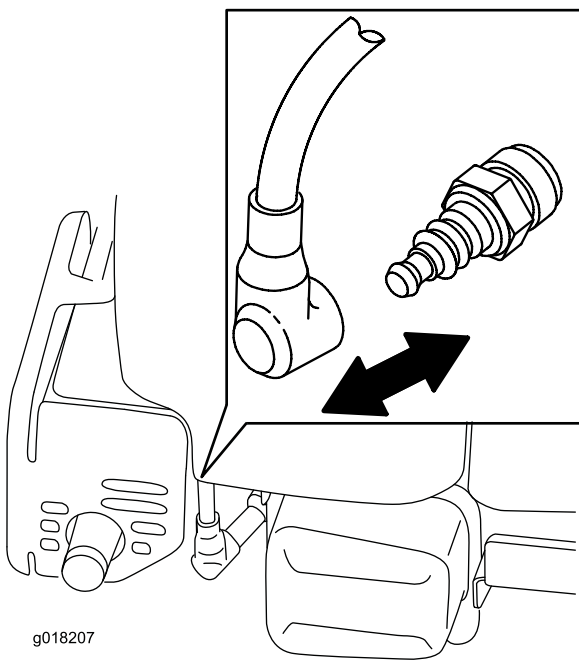

Figure 22
2. Disconnect the spark-plug wire from the spark plug (Figure 22) before performing any maintenance procedure.